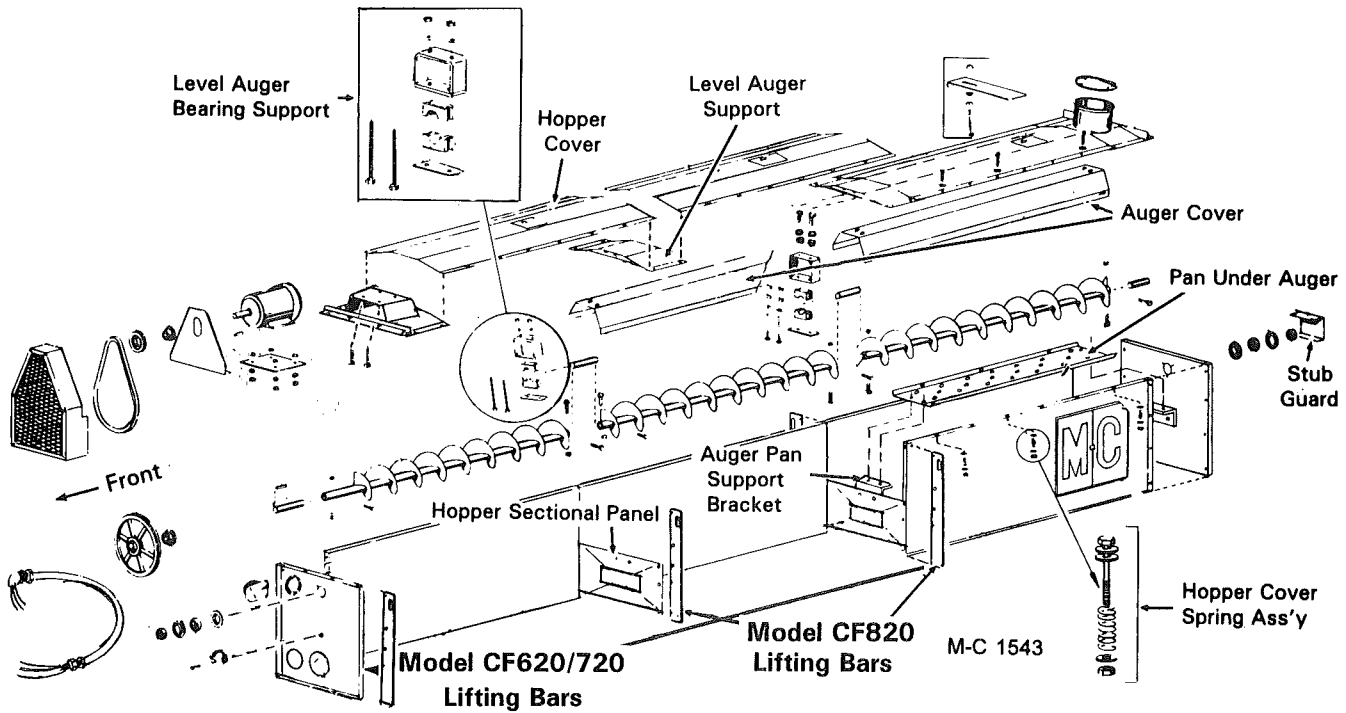

Figure 1 - Hopper and Level Auger CF620/720 & 820
Hopper and Level Auger (See Figure 1)
capscrews, flatwashers, springs and two-way locknuts as shown in Figure 1. Use the end holes and two middle holes only. One (1) flatwasher is to be placed under the bolt head, one (1) at the top of the spring and one (1) at the bottom of the spring next to the locknut. These bolt assemblies are to
2. Attach cables to the lift bars on the hopper. Use spreader bars between the cables and lift the hopper onto the top of the peak assembly, see Figure 1.